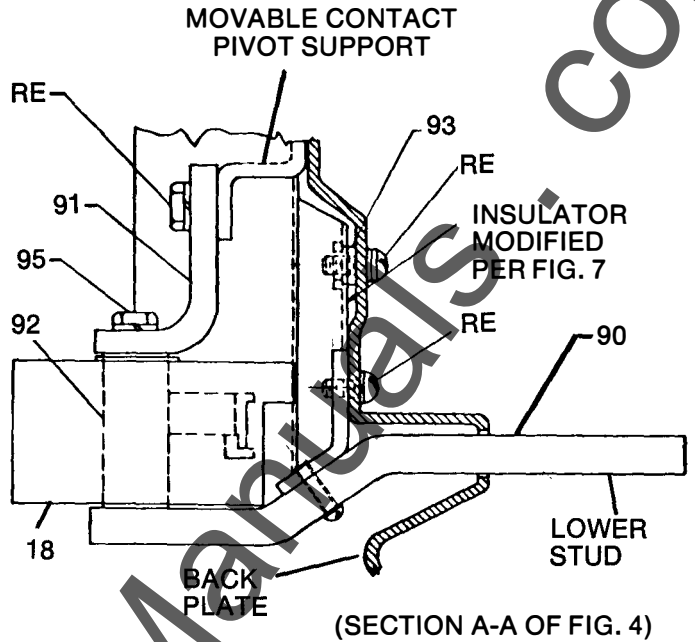
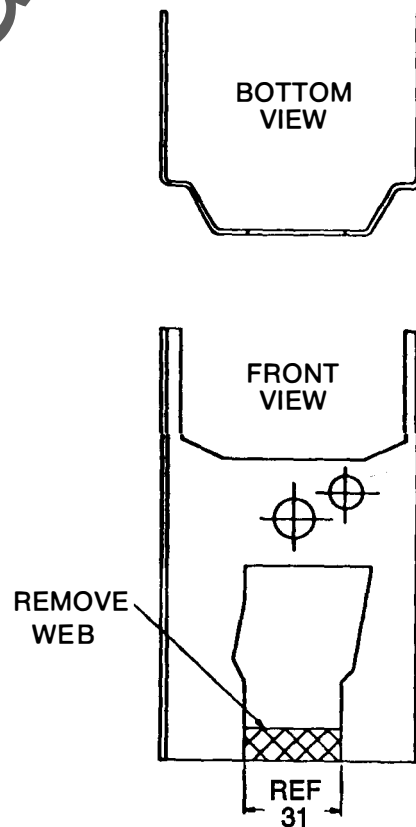

Fig. 7 — Phase sensor assembly, right side view
Fig. 8 — Stud insulator modification
1. Modify the left and right pole lower stud insulator shields per Fig. 8; remount on back plate using original screws and special nut (Item 93 on Fig. 7) supplied with kit.